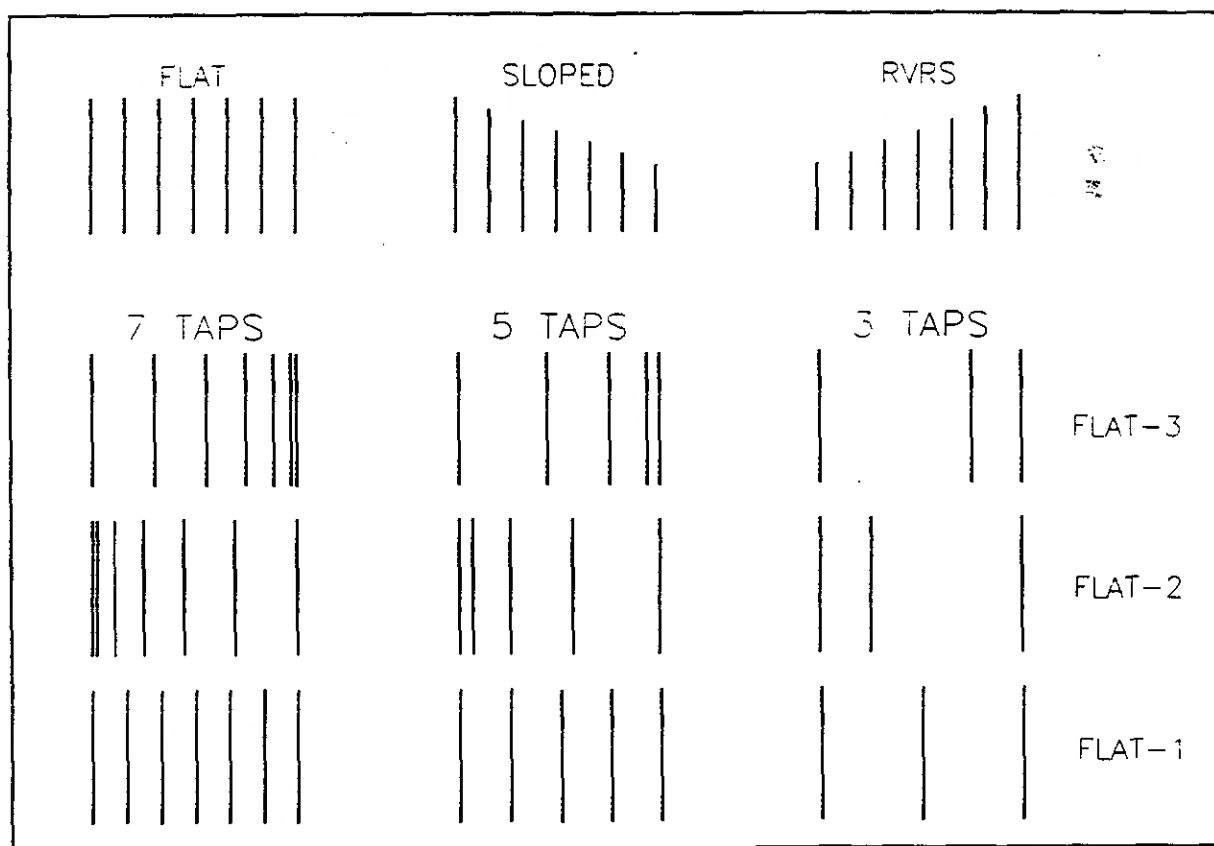

Figure 9
There are three levels of tapped delays in the MULTIVERB. These are what we call Even (E), Shortened (S), and Lengthened (L). See fig. 9 for a graphic representation. (1's are Even, 2's are Shortened, 3's are Lengthened) Even means that the delay taps are at evenly spaced intervals. Shortened means that as the taps approach the set delay, the intervals are closer together. As the taps approach the set delay in the Lengthened mode they are farther apart. In the types you will see an [m] and an [s], the [m] means mono and the [s] signifies stereo. The mono tapped delay has its left and right taps at the same delay points where the stereo taps are staggered. When using the stereo tapped delays the first right tap is half the delay time before the first left tap. There also are three slopes used in the tapped delays, Flat, Reverse and Forward.
Flat has a flat linear response. Reverse exponentially increases in amplitude as the signal approaches the end. Forward exponentially decreases in amplitude as the signal approaches its end point. See figure 9. TYPE 3 taps are dense and full.